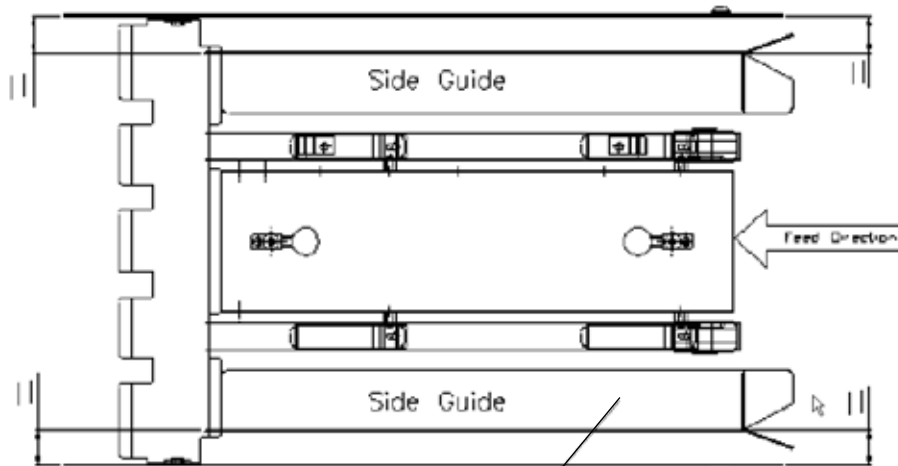

Fig. 16
- 1.3.2** The infeed conveyor side guides should be set parallel to the side plates - see Fig. 16 below. Adjustments can be carried out by placing a sheet of A4 (or Letter) in the conveyor and then adjusting the lock nuts underneath the conveyor bed to 1mm total clearance on either side. Note: if adjusted incorrectly, this can lead to skew feeding/folding.